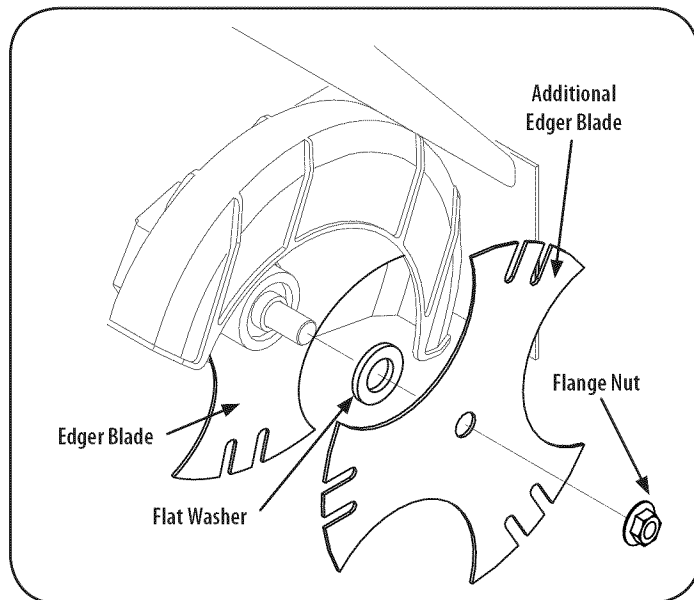

Figure 13
1. Use two wrenches (one wrench to prevent hex bolt head from spinning and the other to unthread the flange nut) to remove flange nut that secures edger blade, leaving the edger blade in place. See Figure 13.
2. Install the flat washer and additional edger blade supplied with your machine. See Figure 13.